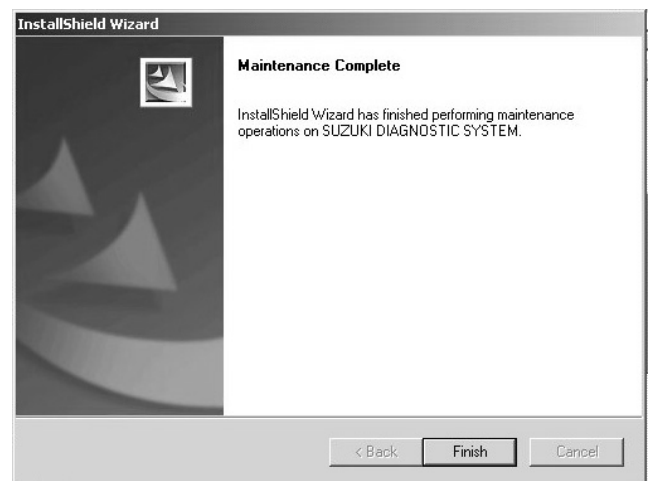

Fig.123
4. Check that the uninstallation has finished and click the “Finish” button. (Fig.123)